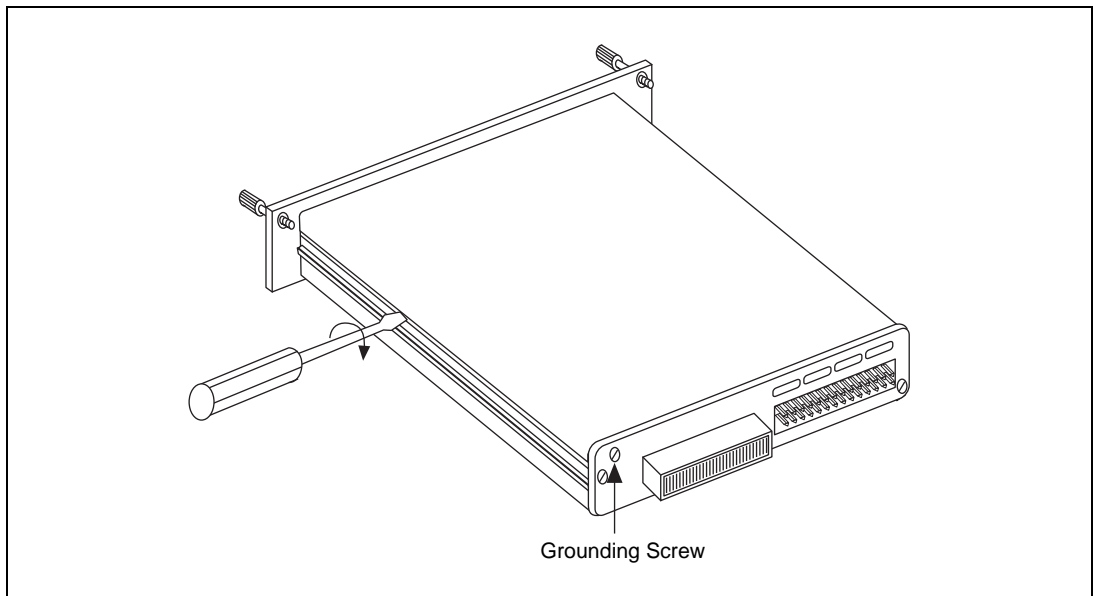

Figure 1. Removing the SCXI Module Cover
5. Unscrew the SCXI module grounding screw with a No. 1 Phillips-head screwdriver and remove the module cover (see Figure 1).